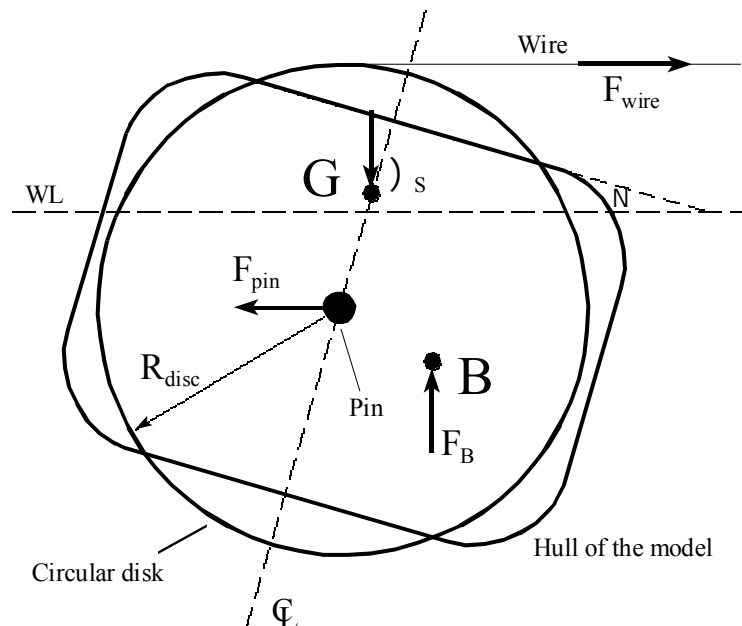

Figure 2 – Simplified View of Heeling Model
- Figure 2 represents the model being listed with the forces and couples mentioned above. Since the model is at static equilibrium when heeled, the external and internal couple must cancel each other out. In the box below give the equation that links the 2 couples and solve this to find an expression for the righting arm GZ.